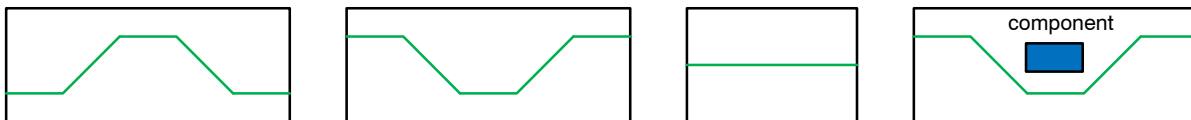

Figure 3. Proper Ways of Trace Routing
- Keep the traces as straight and of minimum length as possible. Where traces needs bending (due to component or PCB), use arc-shaped traces of 45° angle instead of right-angle bends. Figure 3 and 4 below shows examples of proper and improper ways of trace routing respectively.